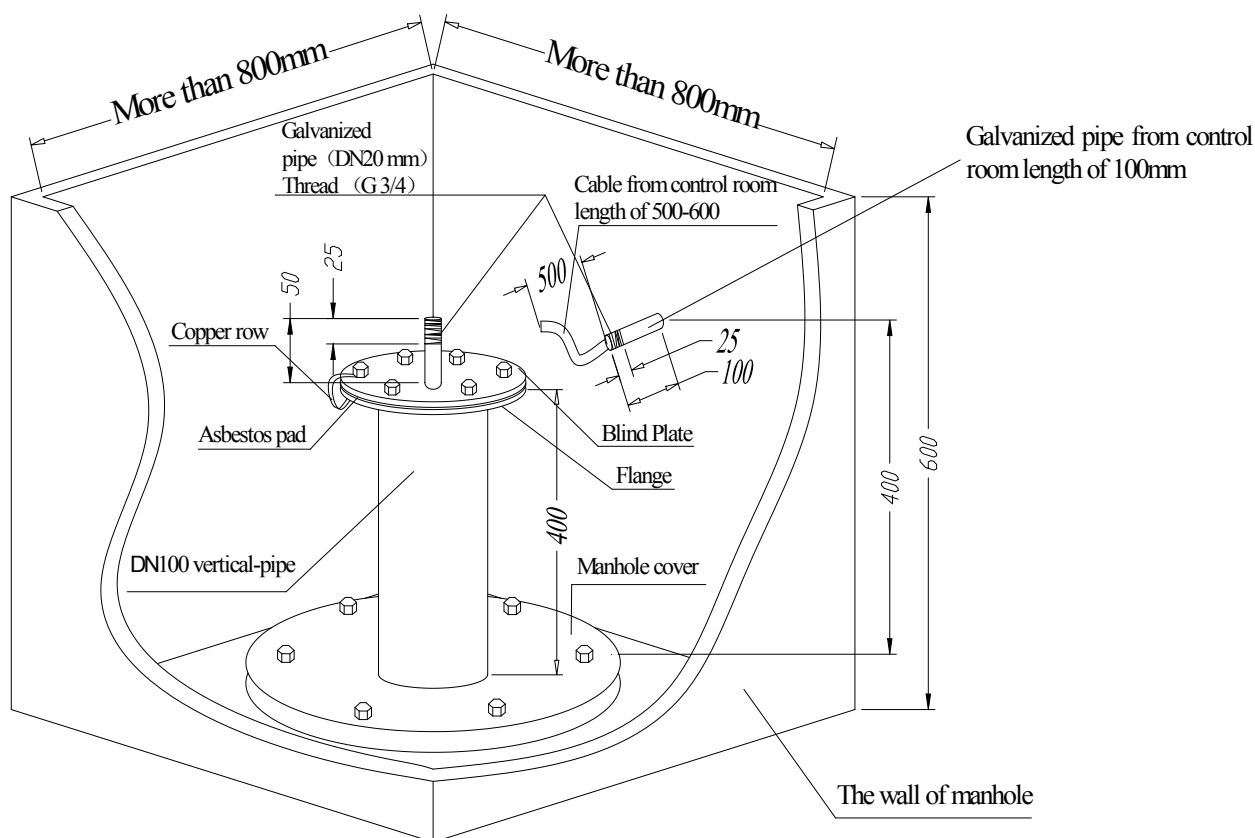

Figure 1. Reformation of the wall of manhole
1. Welding the vertical-pipe and blind plate on the manhole cover of the tank (As shown in Figure 1.)
- The part of the galvanized pipe exposed from the wall of manhole should be 100mm, its outer thread (G3/4) length should be 25mm. The length of the communication cable exposed from the pipe should be 500-600mm (as shown in Figure 1), and please ensure that there is no barrier within 150mm around it and 300mm ahead of it.